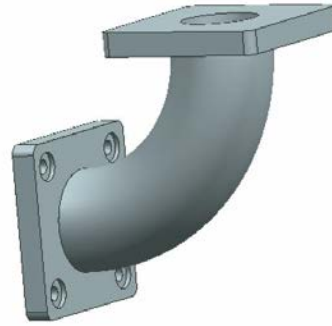

Figure 7-118 Model after creating the linear pattern of counterbore holes
- g. Similarly, create the counterbore hole on the other extruded feature and then create the pattern of holes, refer to Figure 7-118.
10. Specify the same parameters in the **Direction 2** sub-rollout and choose the **OK** button from the **Pattern Feature** dialog box; a linear pattern of counterbore holes is created. The rotated view of the model after creating the linear pattern of the counterbore holes is shown in Figure 7-118.